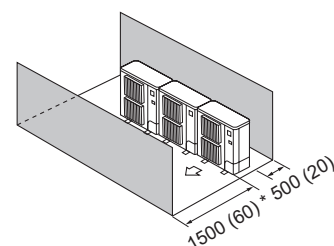

Fig. 2-15
- (4) Obstacles at front and rear only (Fig. 2-15)